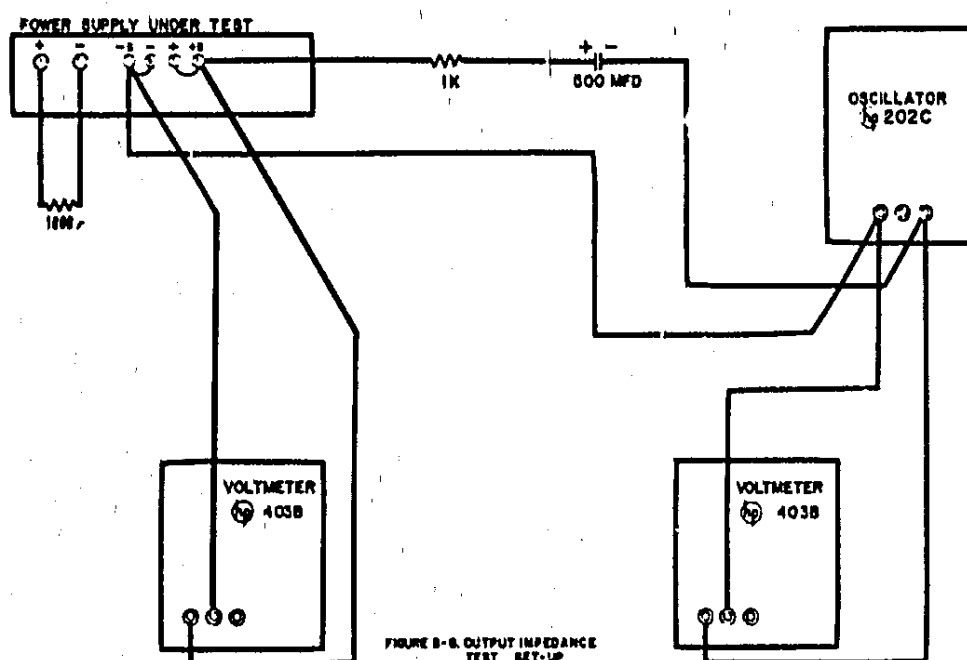

FIGURE 5-3. OUTPUT IMPEDANCE TEST SET-UP
- a. Connect test setup shown in figure 5-3.
b. Connect test setup shown in figure 5-3.